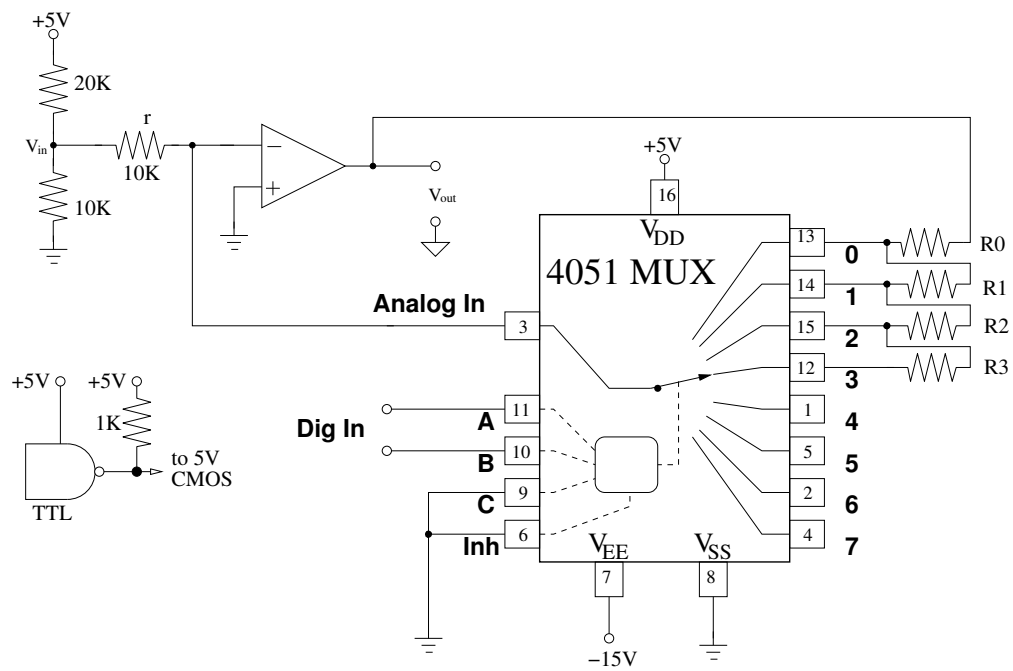

Figure 7: The 4051 analog multiplexer: “rotary control” type schematic of 4051 used to implement an inverting amplifier with digital gain control.
c) **Digital Gain Control:** Rewire the 411 opamp used for the unity gain buffer and build the inverting amplifier with digital gain control shown in Fig. 7. (Note that $V_{EE} = -15\text{V}$). Pick the resistances R0-R3 such that gains of one, two, three, and four are achieved. Test your circuit and discuss the result. (Does it work as expected? Are there potential issues with this circuit?)
You may test the circuit, for example, by connecting the MUX's digital-inputs A and B to the input line (CLK) and output line (Q) of the divide-by-two circuit you constructed previously and by observing the amplifier output on the oscilloscope. Make sure you drive the divide-by-two circuit using square-waves with *amplitudes in between 0 and 5 V*. It is recommended that you use the sync-out signal of the signal generator and frequencies of around 100 Hz. Since a TTL gate (divide-by-two circuit) is used to drive a CMOS gate (4051 MUX), difficulties may arise because the 3.5 V TTL output-high is barely high enough for CMOS logic. Therefore it is recommended to use a pull up resistor as shown in Fig. 7 before connecting to the A and B inputs of the CMOS 4051 MUX.